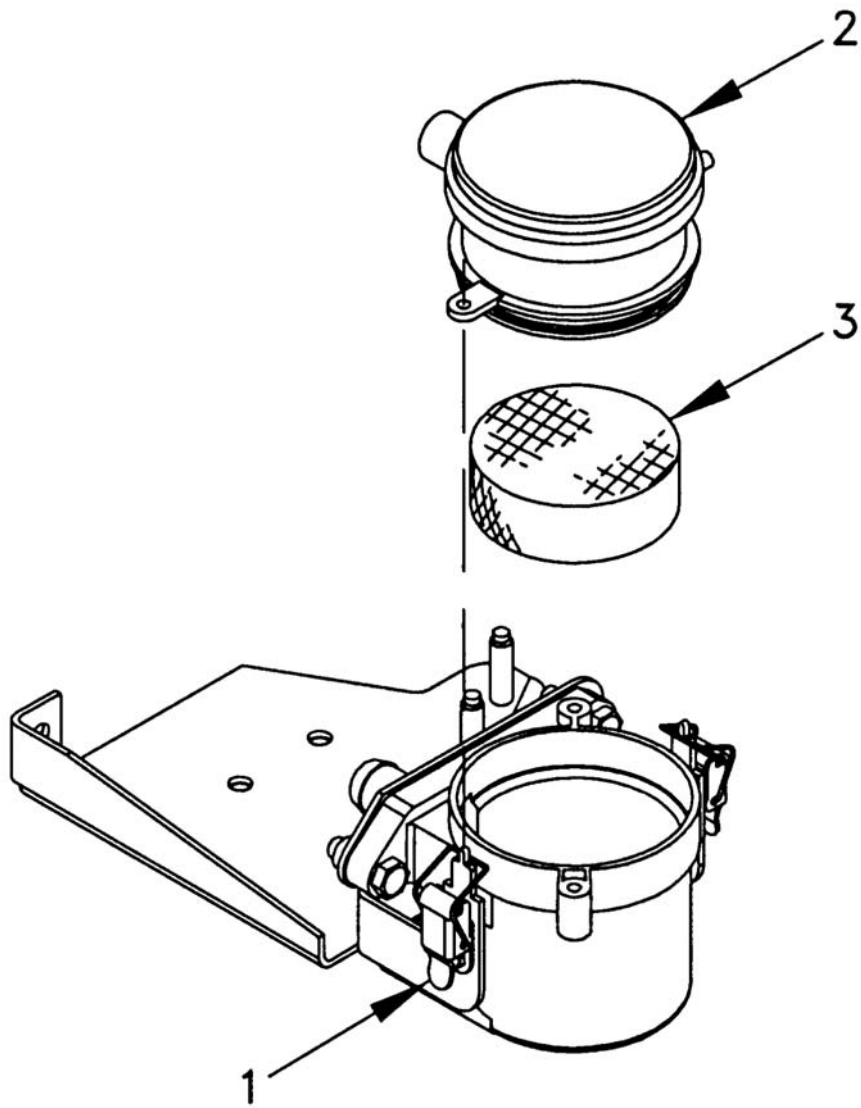

Figure 1. Crankcase Ventilation Filter - MEP-804B/MEP-814B.
3. Release two spring latches (Figure 1, Item 1) and remove cover (2).
4. Remove filter element (3).
5. Clean filter element (3) with warm soapy water and rinse and dry thoroughly.
6. Install filter element (3) into cover (2).
7. Install cover (2) and secure with two spring latches (1).